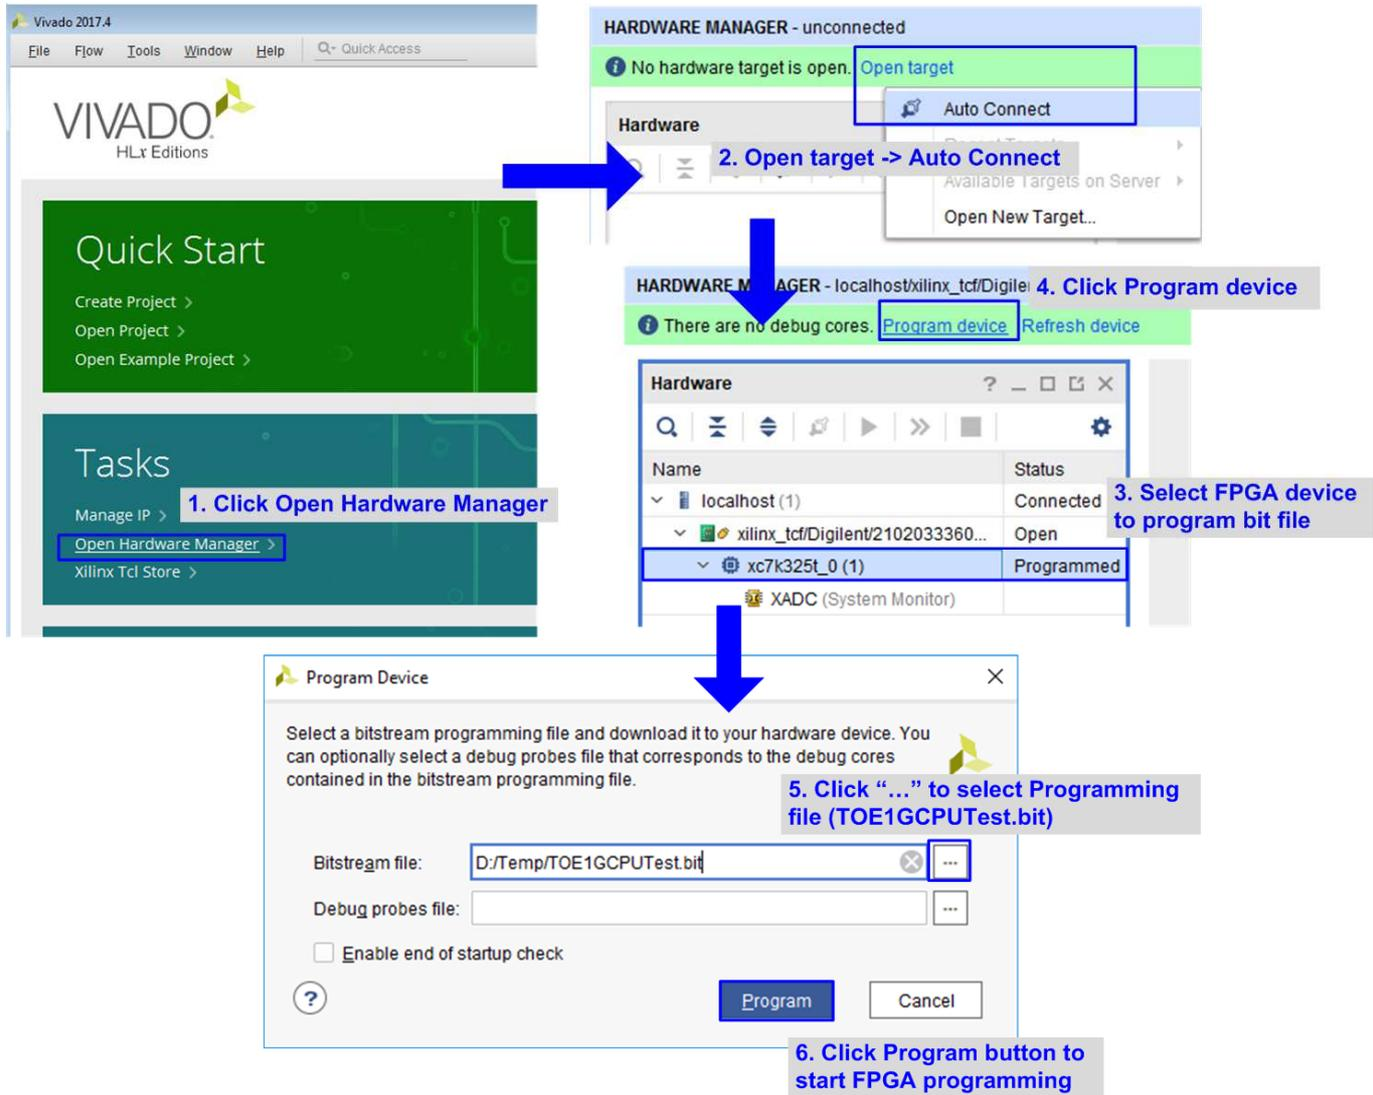

Figure 4-2 FPGA configuration by Vivado
7) Download configuration file and firmware to FPGA board, as shown in Figure 4-2.